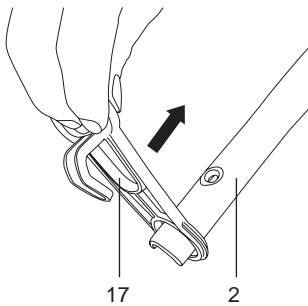

Fig. 6
4. Slide the cord strain relief (17) onto the upper handle bar (2) (the side of handle with two holes) before assembly (Fig. 6&7).